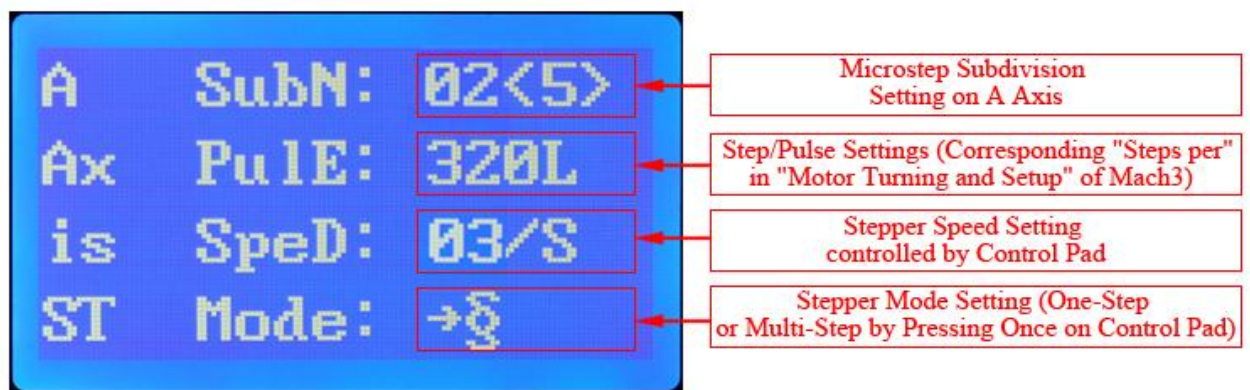

Figure 8: A Axis Running Parameters Setting
- After finishing “Z Axis Running Parameters Setting”, please press the “ST” key on control pad again to skip to the “A Axis Running Parameters Setting” in “Figure 8”.